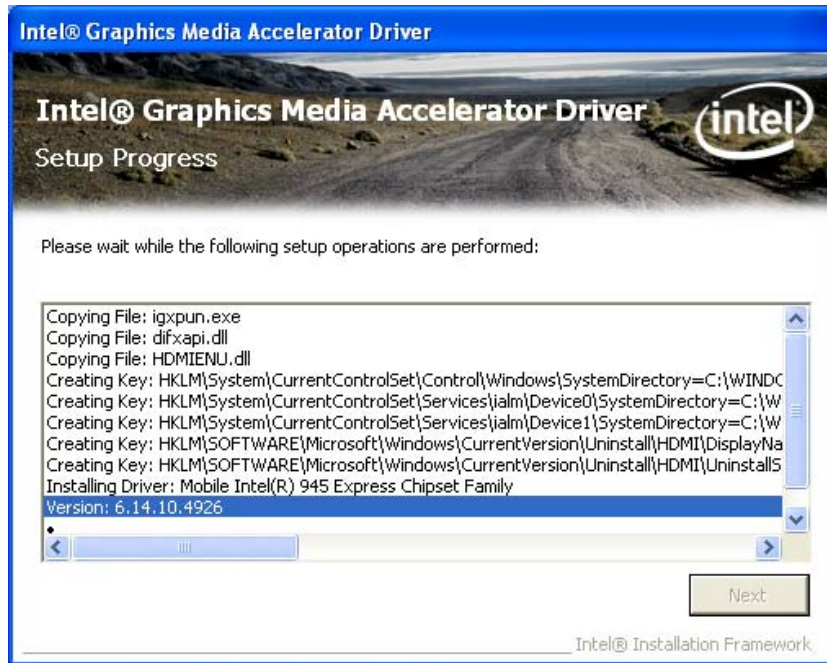

Figure 6-12: VGA Driver Setup Operations
Step 13: Setup Operations are performed as shown in Figure 6-12.